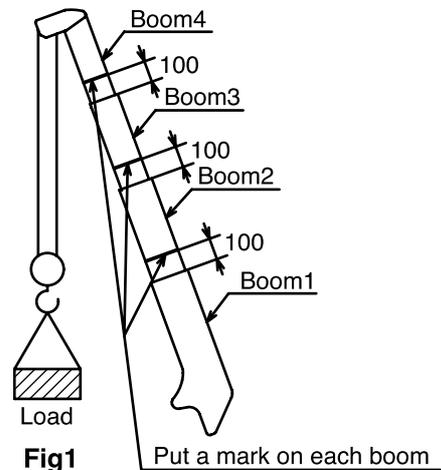

Fig1
(4) Inspection of tele2
- ⑩ Allow booms to be horizontal and extend them fully to put a mark on each boom section (refer to Fig. 1).
- ⑪ Raise booms to their maximum to sling a load.
- ⑫ In order to release pressure remained in the telescoping system, stop the engine and shift the manual lever for telescoping booms.
- ⑬ Remove the retraction hose.
(1) Preparation before inspection
- ① Raise booms to an angle of approx. 30°.
- ② Put a mark on the rod with a felt pen (refer to Fig. 1).
- ③ In order to release pressure remained in the derrick system, stop the engine and shift the manual lever for raising/lowering of booms.
(2) Starting inspection
- ④ Remove the lowering hose to check if oil overflows continuously out of the cylinder port of lowering side. At the same time, check also that how far the rod shifts. If no oil flows out of the port of lowering side, the cylinder is normal.